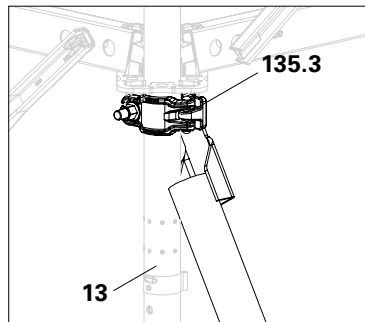

Fig. A15.04a
2. From a safe work location, fit the upper coupling (135.3) to the standard (12). Push the coupling as close as possible to the rosette and tighten. (Fig. A15.04a)